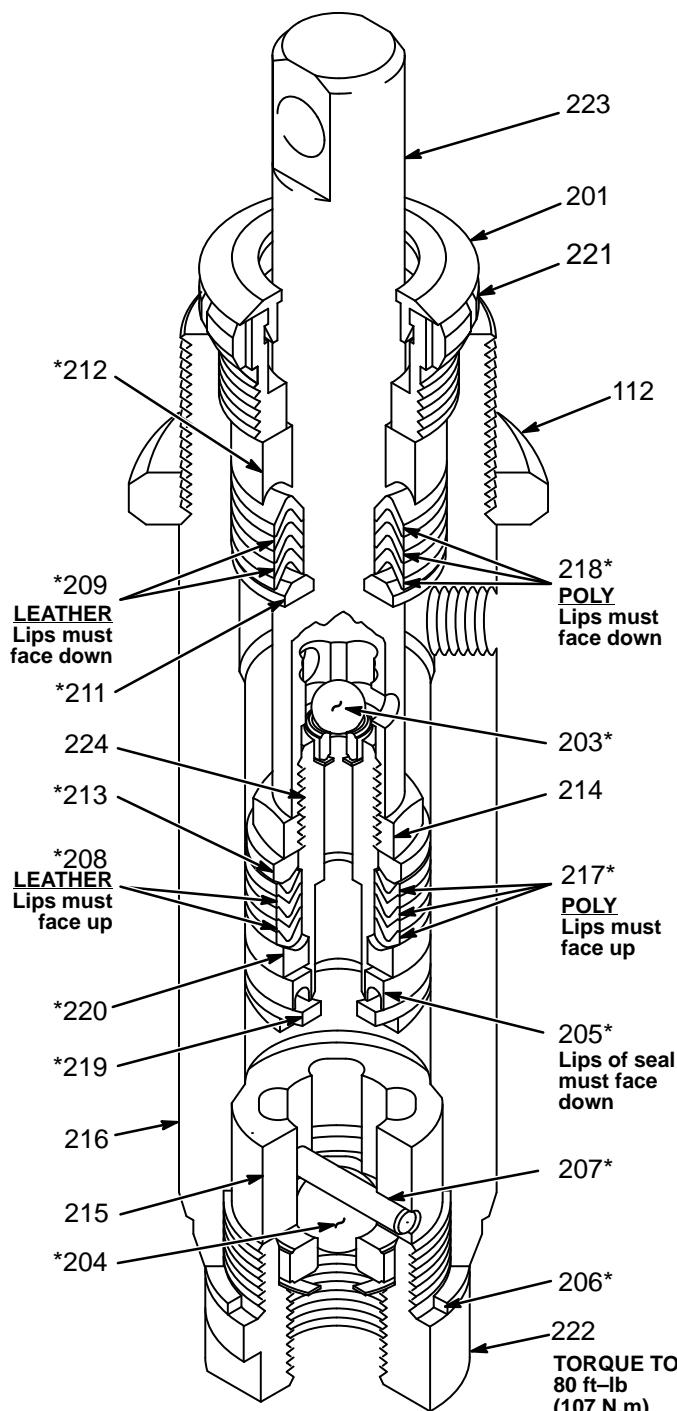

Fig 19-1
5. Stack these parts one at a time into the top of the cylinder (216): male gland (211*), alternate the polyethylene and leather v-packings (218*, 209*) *lips down*, and then the female gland (212*). See Fig 19-1.
6. Loosely install the packing nut (221) and plug (201).
7. Insert the oiled piston rod (223) through the bottom of the cylinder.
8. Assemble the intake valve. Use a new gasket (206*). Screw the intake valve into the cylinder and tighten to 80 ft-lb (107 N.m). See Fig 19-1.
9. Screw down the cylinder locknut (112) until it is finger tight at the bottom of the external cylinder threads. See Fig 19-1.
1. Stack these parts one at a time onto the piston valve (224): backup washer (219*), U-cup seal (205*) *lips down*, and female gland (220*), alternate the polyethylene and leather v-packings (217*, 208*) *lips up*, and then the male gland (213*). See Fig 19-1.